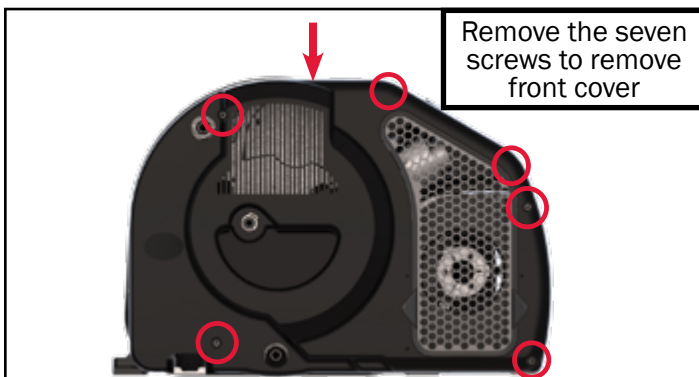

Figure 16
1. Remove the seven screws on the front cover and remove the cover (Figure 16). Plumbing fittings may need to be removed before the cover comes off.